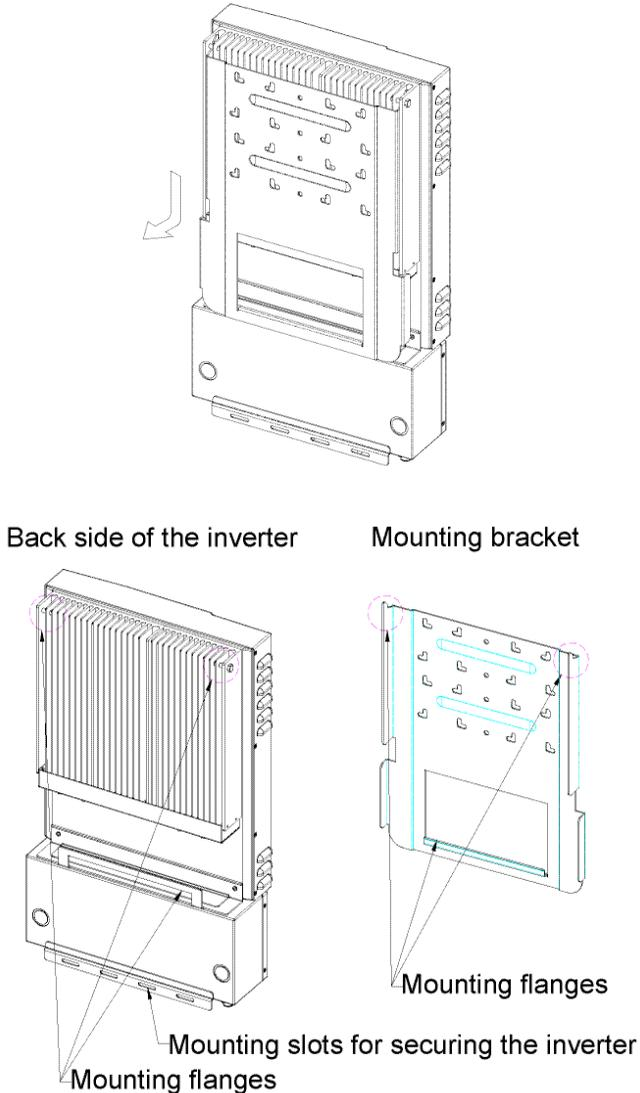

Fig 2.2.1 Removal of the mounting bracket from the inverter
1. After removing the inverter from the carton, the attached mounting bracket must be removed by sliding the bracket down and away from the inverter as shown in the figure 2.2.1 below.